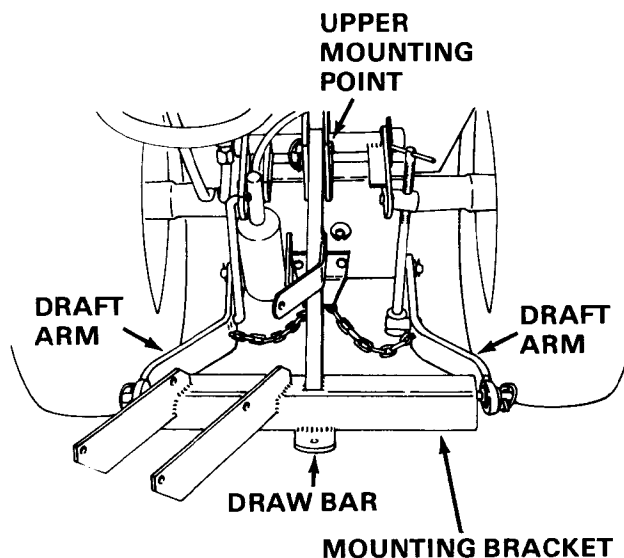

FIGURE 9
2. Install the mounting bracket to the lower draft arms of the 3-Point Hitch as shown in Figure 9. Secure with klik pins.